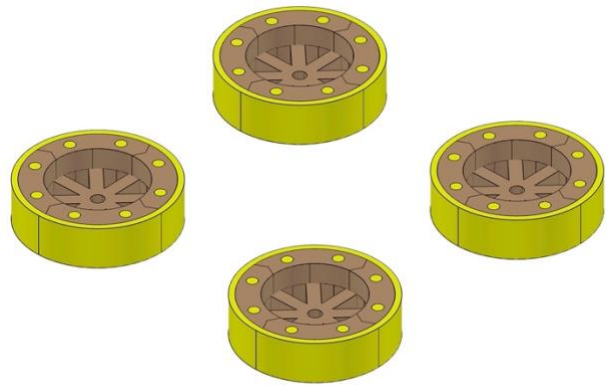

Fig. 50
- *Fig. 50* shows the completed process (make four parts).